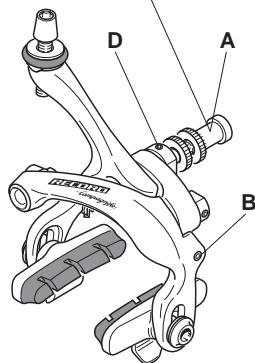

Fig. 5
- Tighten the nut (A - Fig. 5) with a torque wrench to 10 N.m - 7.4 lb.ft.
- If your brakes are fitted with the adjustment screw (B - Fig. 5), then correct centering using a 2 mm Allen wrench.